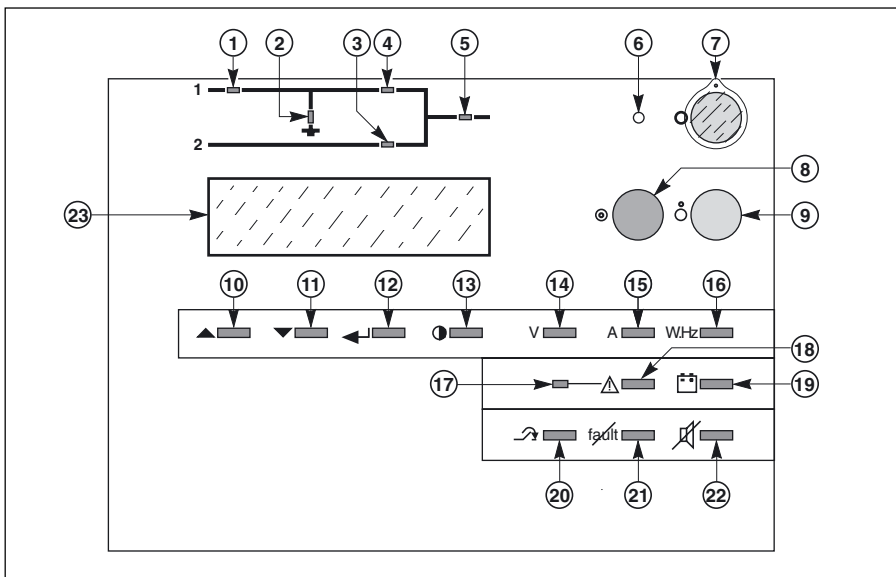

Fig. 19
The display is structured around primary and secondary messages, measuring tables and setting screens. As a rule, the message displayed on the screen is always a primary one. The secondary messages, if any, are accessed by pressing keys (10) ▲ and (11) ▼ (see figure 19).
The presence of secondary messages is indicated by the arrow ↓ at the end of the primary message. Return to the primary messages is automatic if the keypad is not used for 2 minutes, or direct by pressing key (18) (see figure 19). The display screen lights up when a key is pressed, and goes off if no key is pressed for 5 minutes.